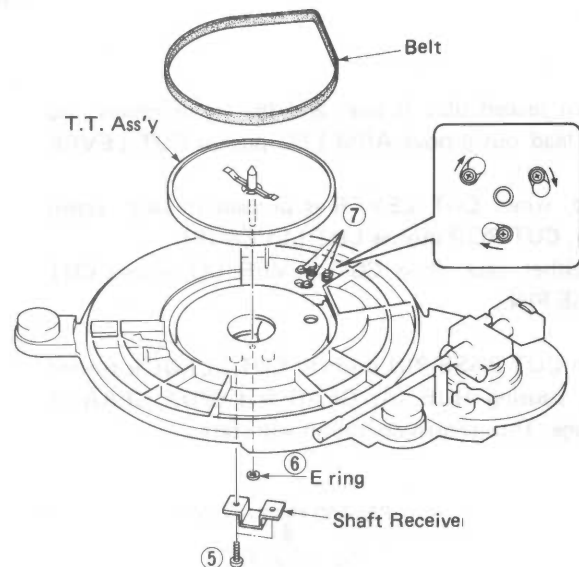

Fig. 3
- b. Remove 2 screws (⑤) in Fig. 3 and then remove the Shaft Receive.
- c. Remove E ring (⑥) in Fig. 3 and then remove the T.T. Ass'y.
- a. Loosen 3 screws (⑦) in Fig. 3.
- b. Rotate the Motor as shown in Fig. 3 and then remove the Motor.